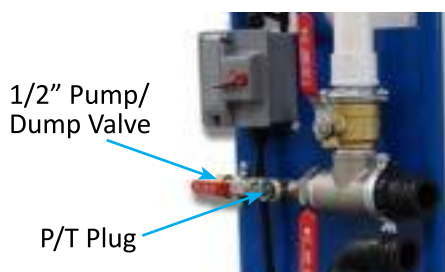

Figure 7: 1/2" Pump & Dump Valve
6. Insert pressure gage with large dial face with a P/T adapter (such as Geo-Flo P/N 3565) into P/T port on flush cart. Close 1/2" pump & dump valve (Figure 7).